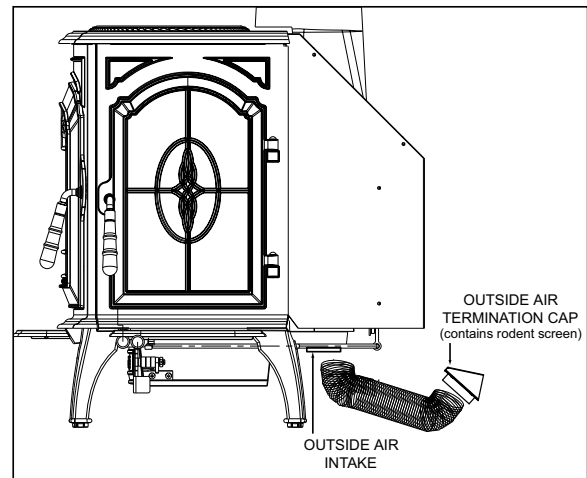

Figure 17A
4. Mount the flex flange (with pipe fitting extending out), over the intake air opening at the rear of the stove using the four mounting screws supplied with the kit. **Figure 17A.**